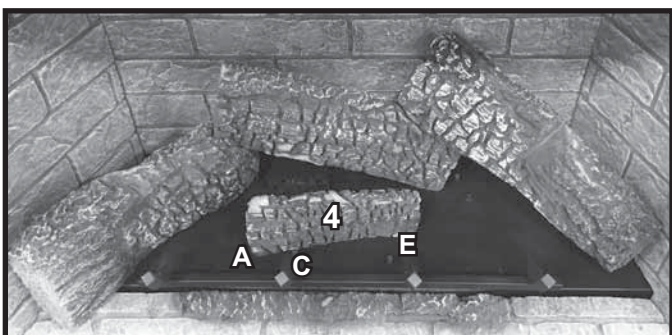

Figure 32. Log #4 Installed
**LOG #4:** Place the left tip of log #4 against pin A and lay flat on the burner. Rotate the log forward until it contacts both pin C and pin E. Log will contact all 3 pins. See Figure 32.